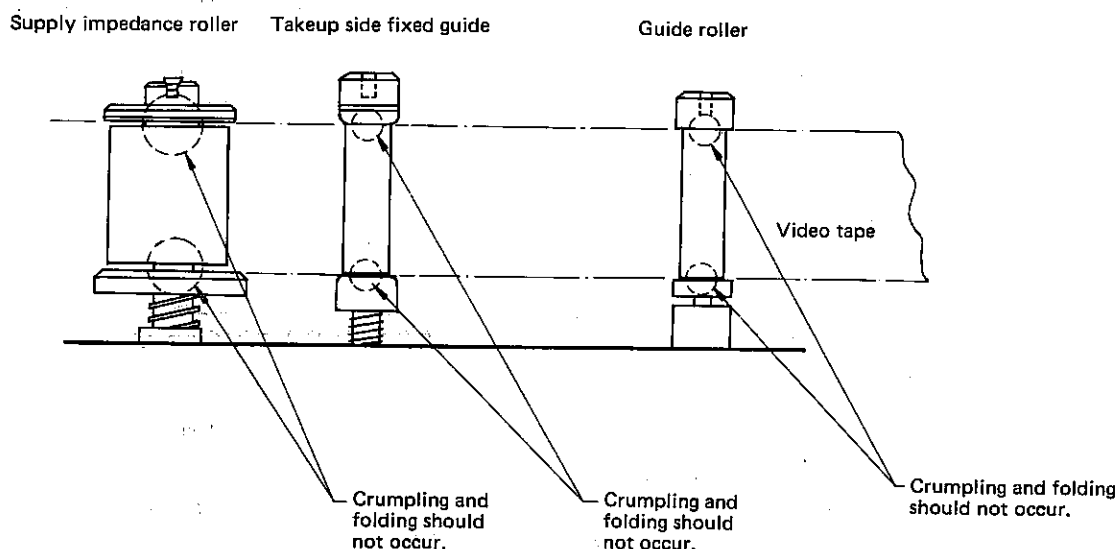

Figure 31.
neither crumpled nor folded at its edges (see Figure 31).
2. After adjustment, be sure to adjust tape travel and the guide roller (Takeup, Supply). Then check the height of the supply impedance roller fixed guide as shown in Figure 31.